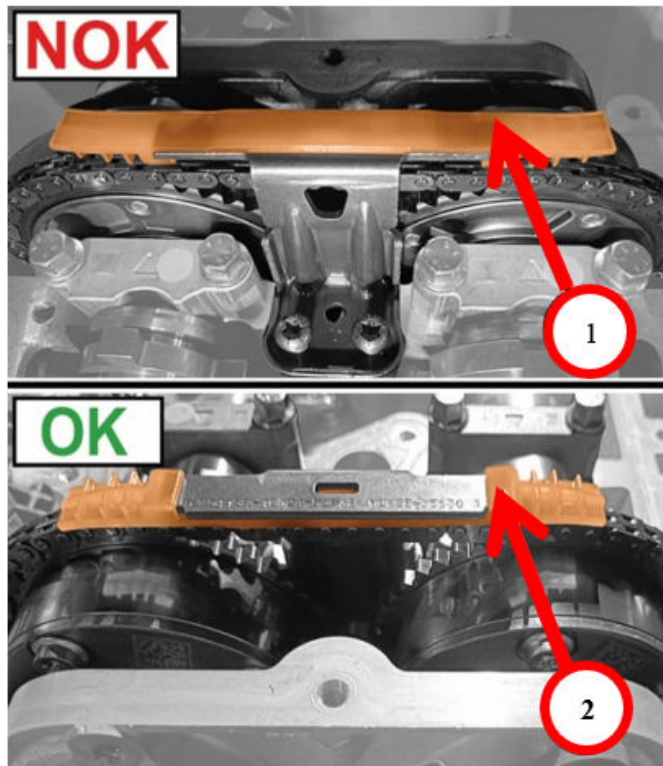

Fig. 1
2. Check conformity of the tensioner pad snubber Fig. 1.